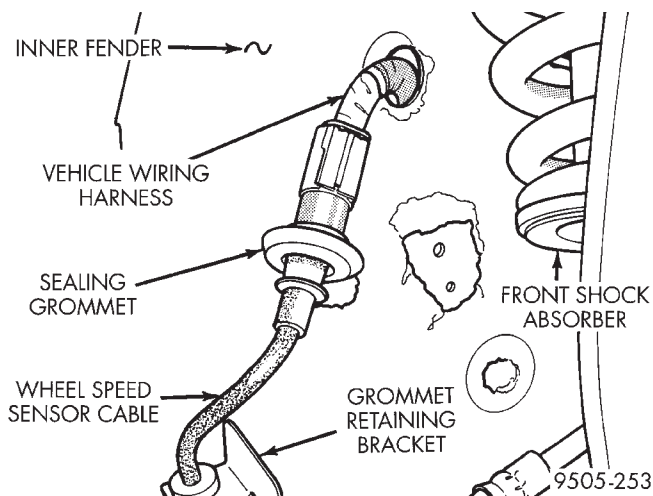

Fig. 33 Wheel Speed Sensor Connection To Vehicle Wiring Harness
(4) Remove speed sensor sealing grommet from the inner fender (Fig. 33). Then unplug the speed sensor cable from the vehicle wiring harness (Fig. 33).
(1) Connect the wheel speed sensor cable connector to the vehicle wiring harness (Fig. 33).